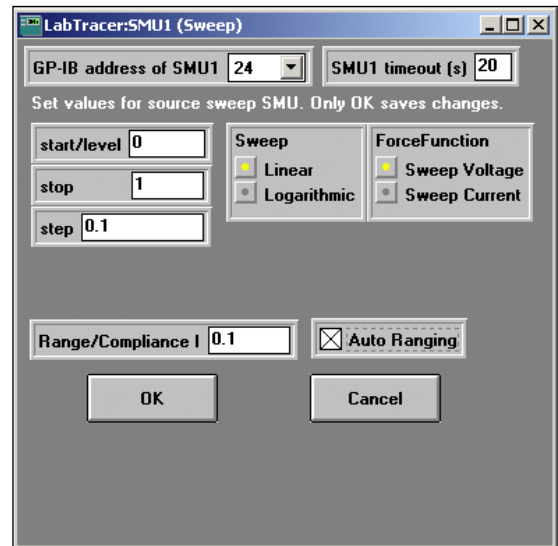

Figure 6. SMU1 Setup
4. **Figures 6 and 7** illustrate the dialog boxes used to set up the SourceMeter instruments. Note that the dialog boxes for the two SMUs are very similar.